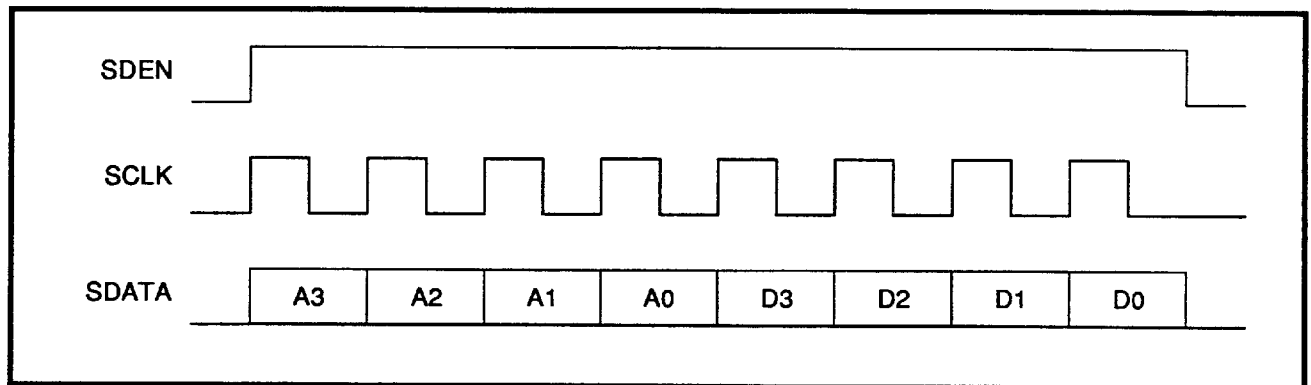

FIGURE 2: Serial Port Timing
ations for the serial port are fairly straight forward (see Figure 2). The enable line is driven high to initiate the data transfer. While the enable line is high, the transmitting device should output eight clock pulses along with eight bits of synchronous programming data, four address bits followed by four data bits. The data is shifted internally on the falling edge of the clock pulses. To prevent false data from being latched in, only eight (8) clock pulses should be provided while the enable line is active. The falling edge of the enable input will latch the data into the internal registers and initiate the selected function.